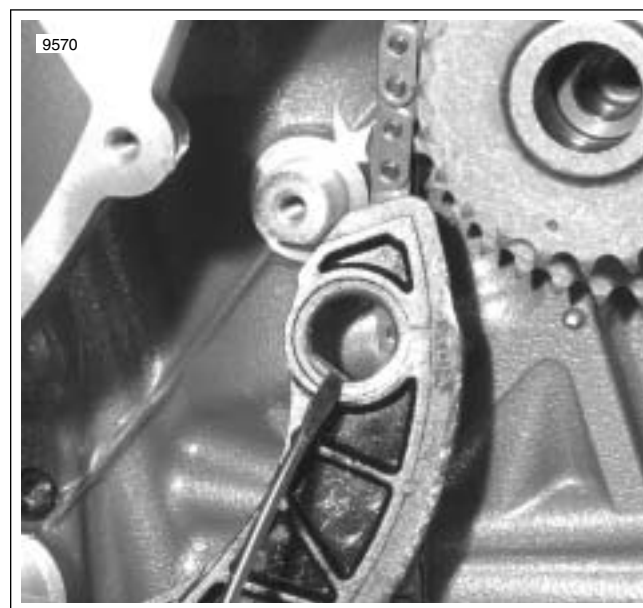

Figure 3-243. Primary Chain Fixed Tensioner
4. See Figure 3-243. Install primary chain fixed tensioner. Note the flat in the chain tensioner bore and the flat on the mounting shaft in the case.